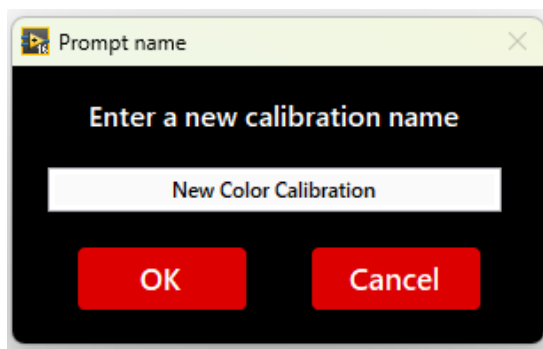

Figure 94 - Rename color calibration
You can rename a color calibration. To do so, select the calibration you want to rename (complete or incomplete) and click on the R control (R) under the corresponding list. It will trigger a pop-up window (Figure 94 - Rename color calibration) where you can enter the new name.